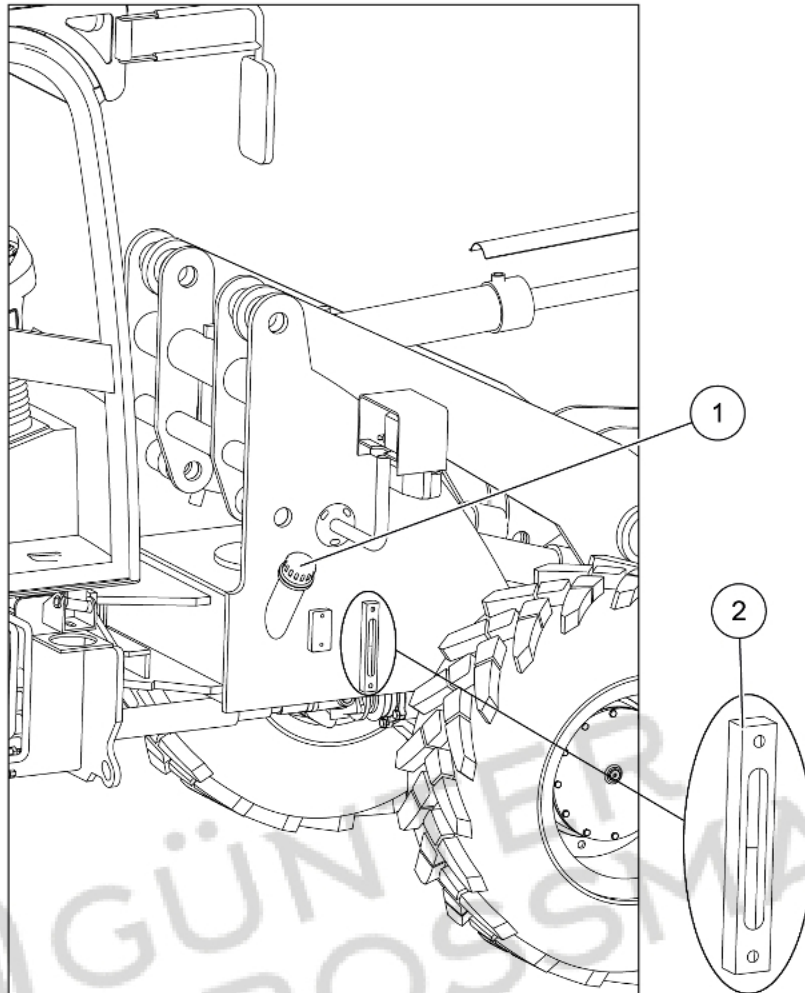

Figure 5-36 Fuel tank
Step 2: Carefully clean the area of the fuel tank cap (1) and unscrew the fuel tank cap (1), as shown in Figure 5-36;